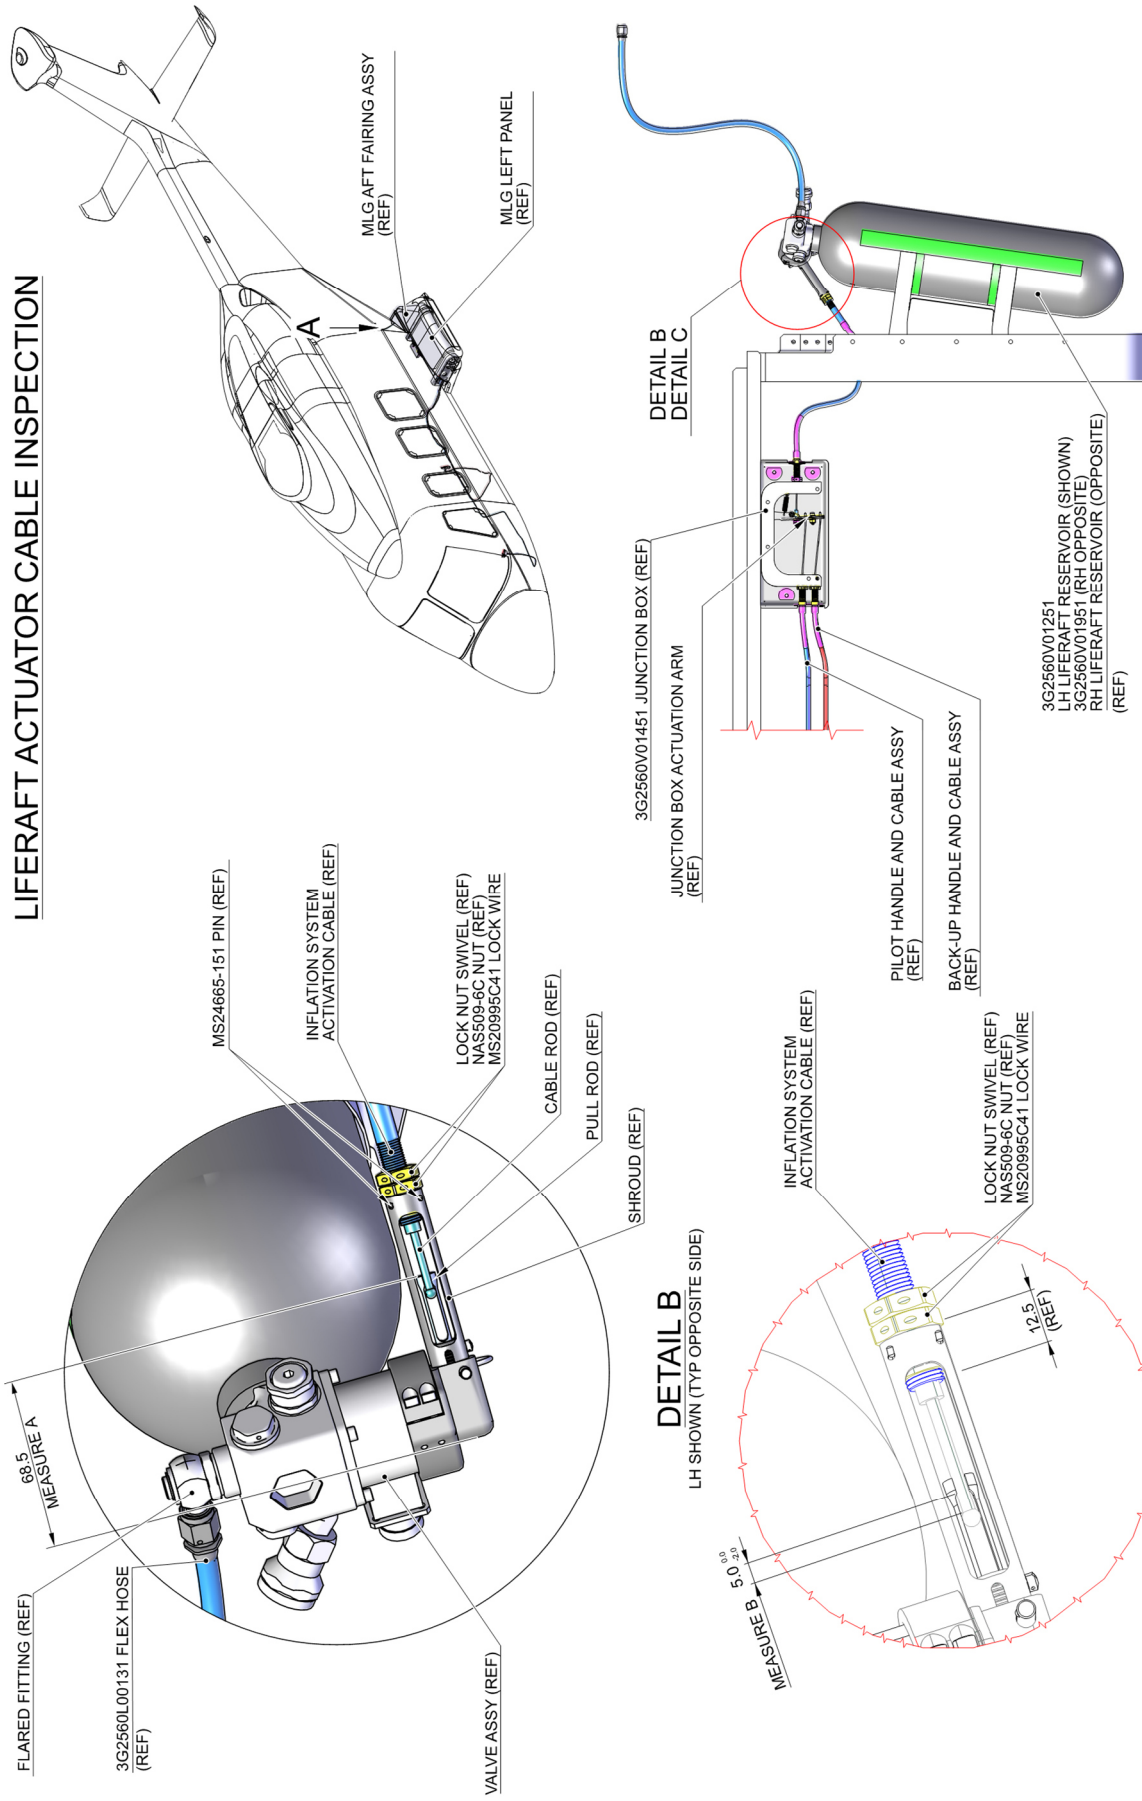

Figure 1
2. In accordance with AMP DM 39-A-06-41-00-00A-010A-A and with reference to Figure 1, gain access to the affected area.
3. With reference to Figure 1 Detail B, disconnect the flex hose P/N 3G2560L00131 from the bottle valve.
5. With reference to Figures 1 and 2, perform the valve pull rod inspection as described in the following procedure:
- 5.1 With reference to Figure 1 Detail B and Figure 2 Detail B, perform the measurement of the actuation cable between the face of the pull rod and the back of the valve cap and compare it with the maximum allowed of 68.5 mm (see measure A).
7. With reference to Figure 1 Detail B, connect the flex hose P/N 3G2560L00131 to the bottle
5. With reference to Figure 1, perform the life raft actuator cable inspection as described in the following procedure:
- 5.1 With reference to Figure 1 View A and Detail C, with the junction box actuation arm in its rest position (90° with respect to the helicopter longitudinal axis), verify the presence of a $5.0^{+0.0}_{-2.0}$ mm clearance between the sphere at the end of the cable and the activation system in accordance with the measurement range shown (see measure B).
7. With reference to Figure 1 Detail B, connect the flex hose P/N 3G2560L00131 to the bottle valve. Tighten the nut of the hose to the standard torque value.